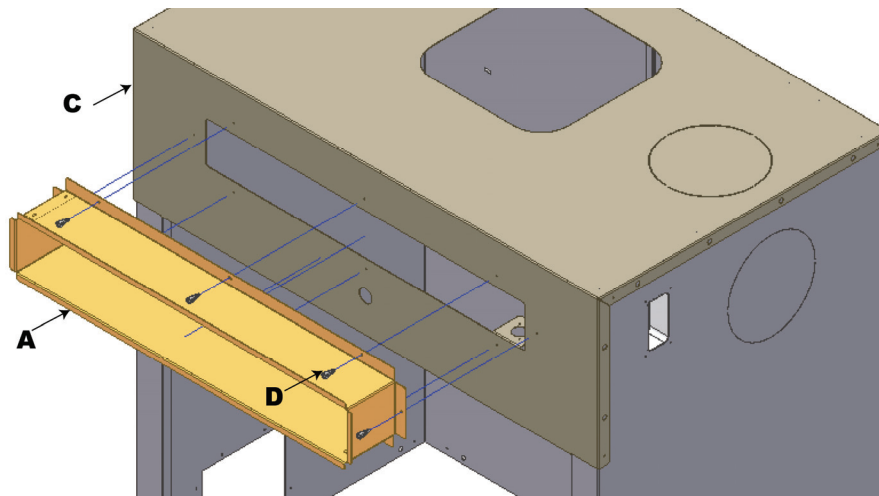
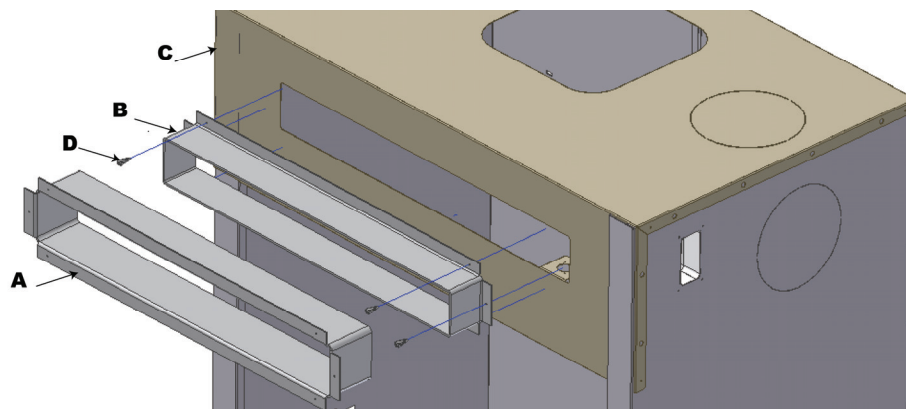
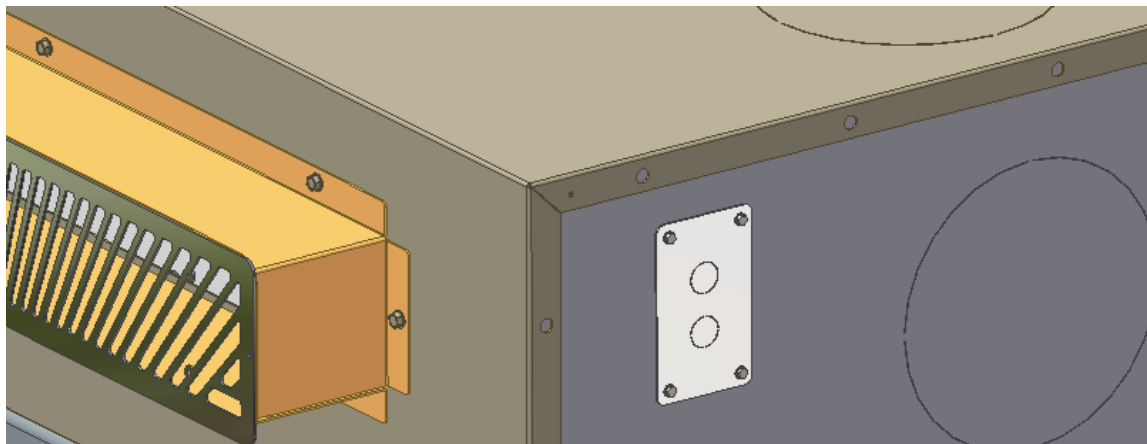
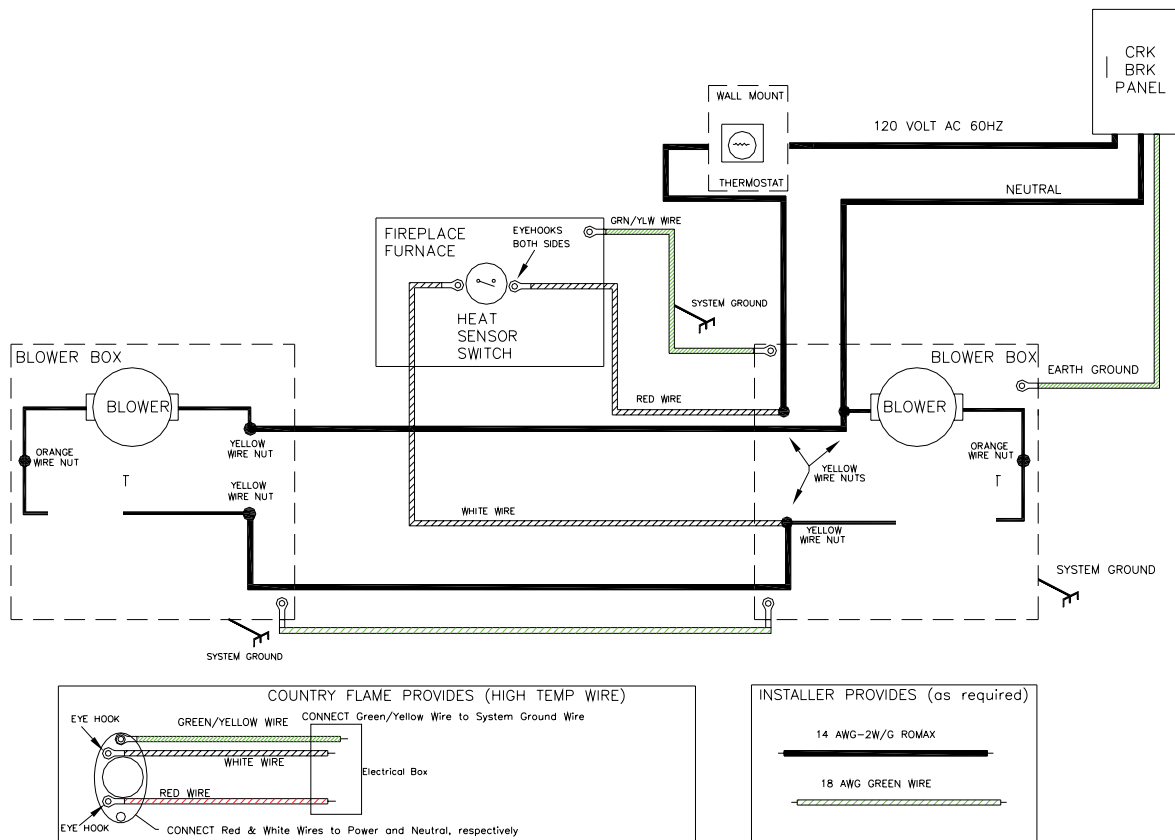

FIGURE 9A: HEAT DISCHARGE BOOT
FIGURE 9B: ADJUSTABLE HEAT DISCHARGE BOOT (OPTIONAL)
FIGURE 13: ELECTRICAL JUNCTION BOX
FIGURE 14: ELECTRICAL SYSTEM
4. FIGURE 9A demonstrates the installation of the top front warm air discharge boot to the front of the Smart Fireplace. FIGURE 9B demonstrates the procedure for installation of the adjustable warm air discharge boot (optional.) This optional item allows the mason to adjust for any variation in non-standard brick or stone that is being used on to face the fireplace.
5. The temperature snap disc was mounted and pre-wired at the factory. Refer to FIGURE 14 and ensure a qualified electrician properly wires and grounds the Smart Fireplace to the electrical box, shown in FIGURE 13. **NOTE:** It is important to remember that no access to wiring and grounding of the fireplace is possible once the brick mason has completed all brick work. Ensure that wiring is proper and functioning before allowing brick work to be completed.
FIGURE 9A shows the proper assembly of the standard heat discharge boot. FIGURE 9B shows the optional adjustable heat discharge boot that is required in the event anything but 4" wide brick is used to complete the masonry work. The optional slide in FIGURE 9, Item B, allows for a lintel adjustment from 4 inches to 7 inches. By ordering the adjustable heat discharge boot the brick mason can adjust for variations in custom masonry finishes that might be used on a particular fireplace. Refer to **STEP 7 - COMPLETION OF MASONRY FRONT** for step-by-step procedures for installing the parts shown in FIGURE 9.
- (A) Outer Frame, Heat Discharge Boot (FIGURE 9A standard, FIGURE 9B optional)
- (B) Inner Frame, Adjustable Heat Discharge Boot (FIGURE 9B optional)
- (C) Fireplace Furnace
- (D) Four tek screws
6. The fireplace heat grille and heat discharge boot come preinstalled from the factory and can be used with any masonry brick up to 4" in thickness. If thicker masonry material is used, refer to FIGURE 9B for a pictorial view of the assembly process of the optional adjustable heat discharge boot. These optional parts are listed in the back of this manual. Order them from your dealer.
- A. Mount "inner unit" (Part B, optional) to front of fireplace Part C using four (4) screws, Part D.
- D. The air discharge snap disc comes pre-installed and wired from the factory. Ensure that it is wired to the home circuit by a certified electrician AND properly tested before final face masonry is completed. A complete electrical circuit diagram is shown in FIGURE 14.
FIGURE 13 shows the location of the electrical junction box cover. A certified electrician should remove the cover of this junction box to connect the Smart Fireplace Furnace's blower system to the household electrical grid and the supplied thermostat with proper temperature rated romex wire. **WARNING:** Failure to properly wire in the blower system can lead to shock hazard, a malfunctioning blower system, or could create a fire hazard. Contact a certified electrician to ensure proper installation of the Smart Fireplace Furnace blower system. **NOTE:** All wiring should be completed before masonry work is complete.
FIGURE 14 shows the proper components and wiring procedure for connecting the blower system. Follow all local electrical and safety codes as well as the National Electrical Code when installing electrical wiring.
clear of sharp objects. Further, ensure that the power cables or motor leads are not kinked. Never allow the power cables or motor leads to come in contact with oil, grease, hot surfaces, or chemicals. Utilize the two high temperature wires (red and white) provided by Country Flame to connect the air discharge snap disc to the electrical system as shown in FIGURE 14. Use the high temperature wire (green/yellow) to ground the fireplace to the right blower box. The green/yellow wire installed by Country Flame at the factory should be connected to one of the screws used to hold the air discharge snap disc to the fireplace. Connect the other end of the green/yellow wire to the right blower box or another earth ground coming from the circuit breaker box. The installing electrician should ensure proper grounding is accomplished for both blower boxes and the fireplace unit as per FIGURE 14. Screws and wire nuts are provided by Country Flame to ensure all parts are available during installation.